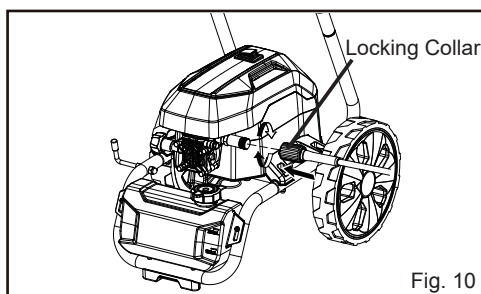

Fig. 10
- Insert one end of the high-pressure hose into the water outlet as shown and turn the locking collar of the hose clockwise to lock the hose in place. Make sure the hose is secured completely (Fig. 10).